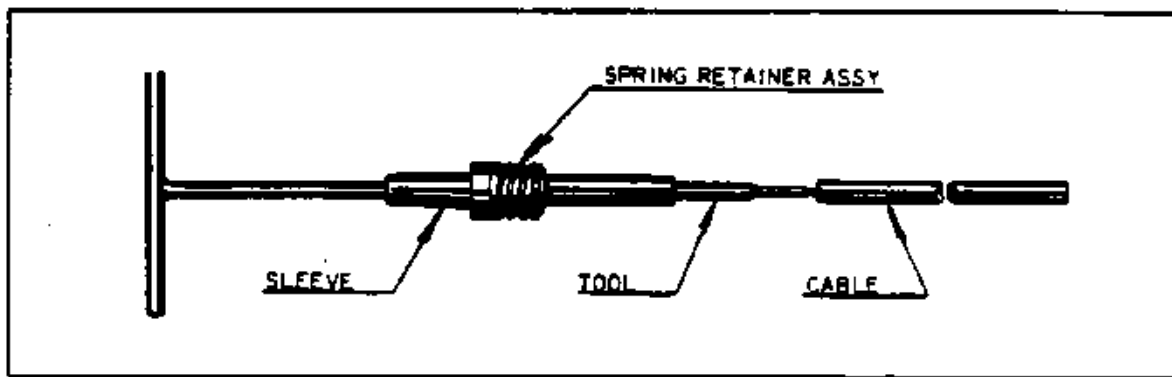

Figure 8-16. Using Assembly Tool
- (b) Push the tool thru insulating sleeve and spring retainer assembly as shown in Figure 8-16. Screw the cable terminal into the tool.